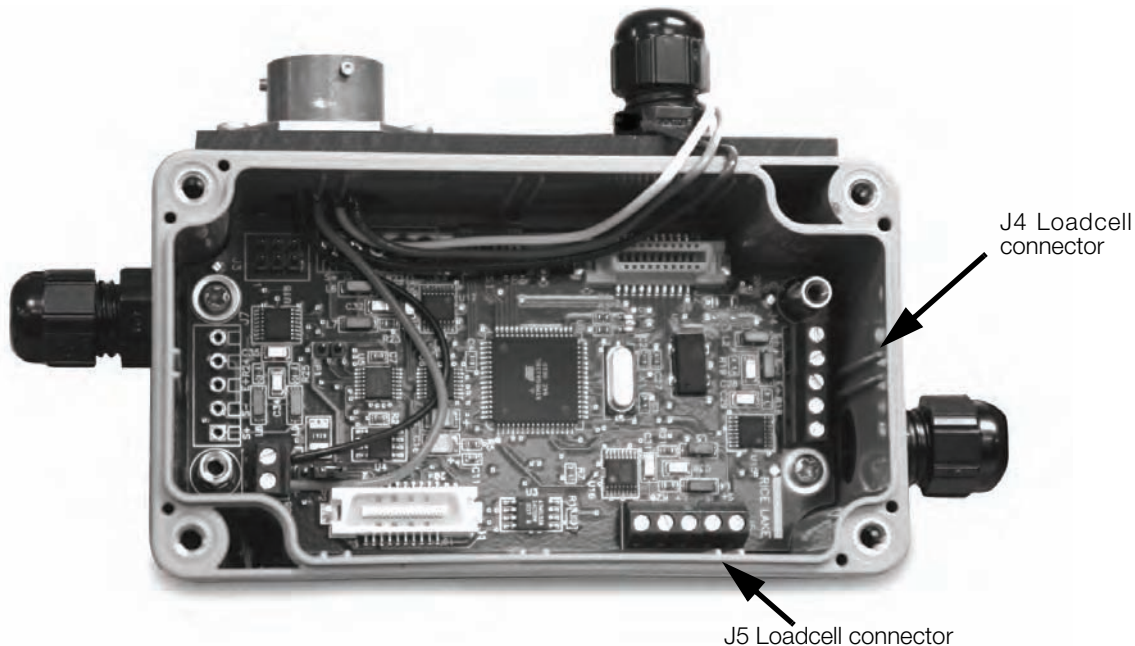
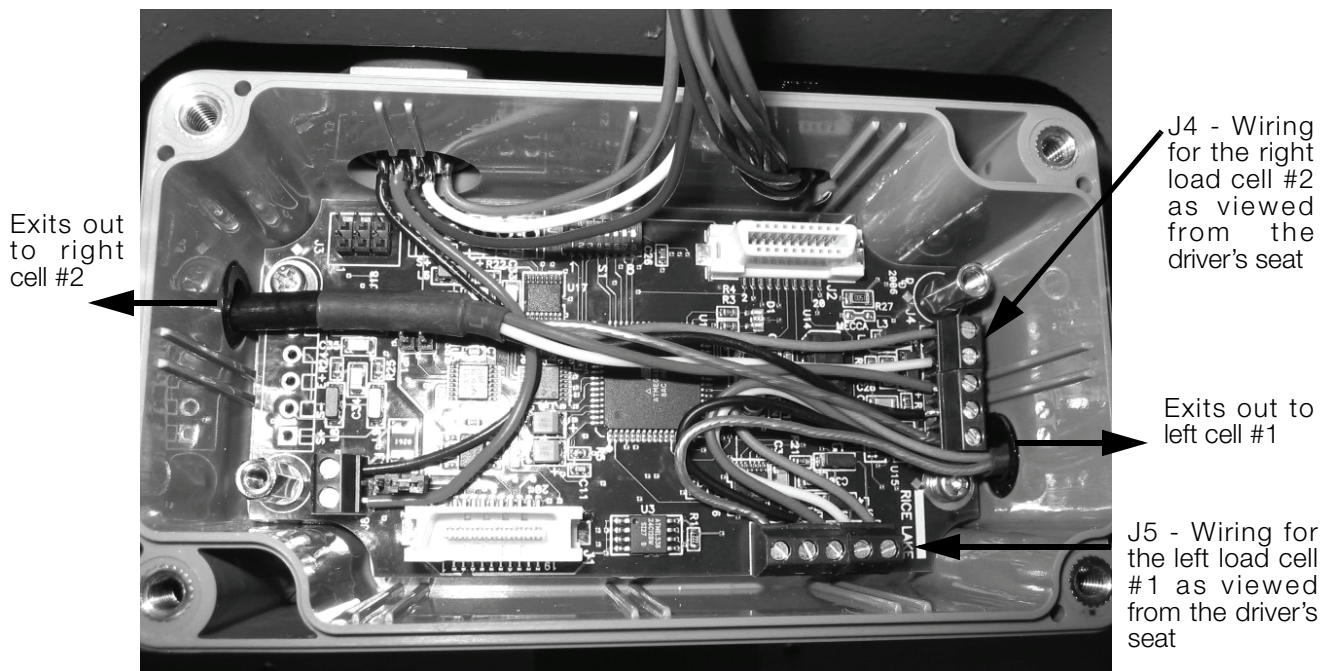

Figure 3-4. Inside of Junction Box - Bottom Board
Figure 3-5. Bottom Board Wiring
The junction box has two boards within the box. To access the bottom board, remove the screws that hold the top board in place and flip the top board up and back out of the way as the wires that connect the top and bottom boards are long enough to accommodate this. The bottom board which is shown in Figure 3-4 connects the wiring for both load cells one and two. Table 3-1 lists the wiring assignments for the bottom board.
9. Reconnect the wires to the bottom board per Figure 3-4, Figure 3-5, and Table 3-1 listed below.